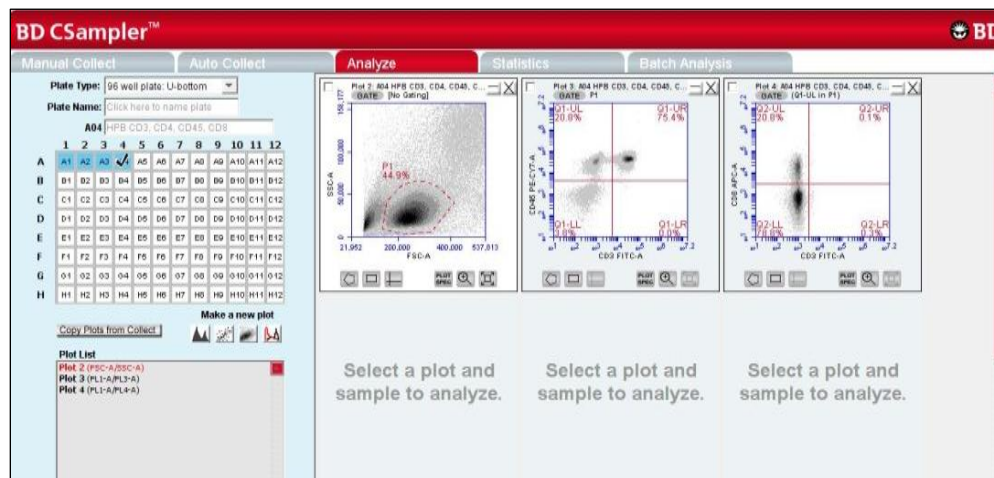

Figure 6-8. Analyze Tab: Plots with Gating Applied
- Select a plot in the Plot List (Figure 6-8). BD CSampler Software displays the plot without any sample data.